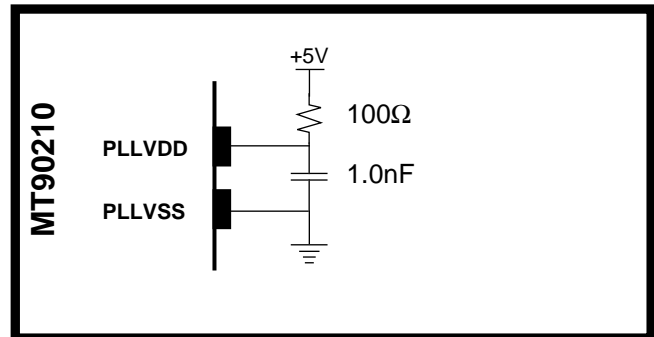

Figure 11 - PLLVDD/PLLVSS RC Circuit
- In some setups, an RC network (Figure 11) between PLLVDD and PLLVSS supplies helps to reduce jitter.